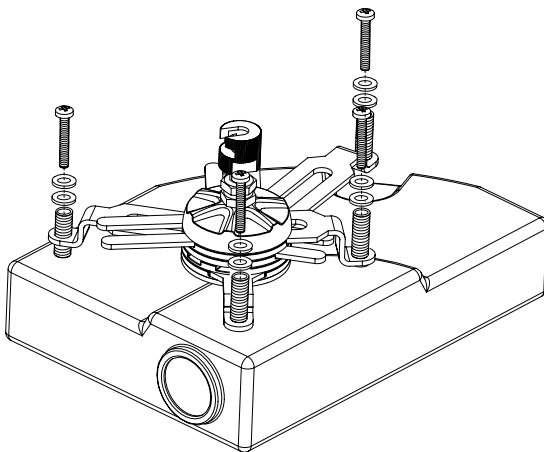

Figure 2
- ② Install Aero Universal Projector Bracket on projector if applicable (see separate instructions; also Fig. 2).